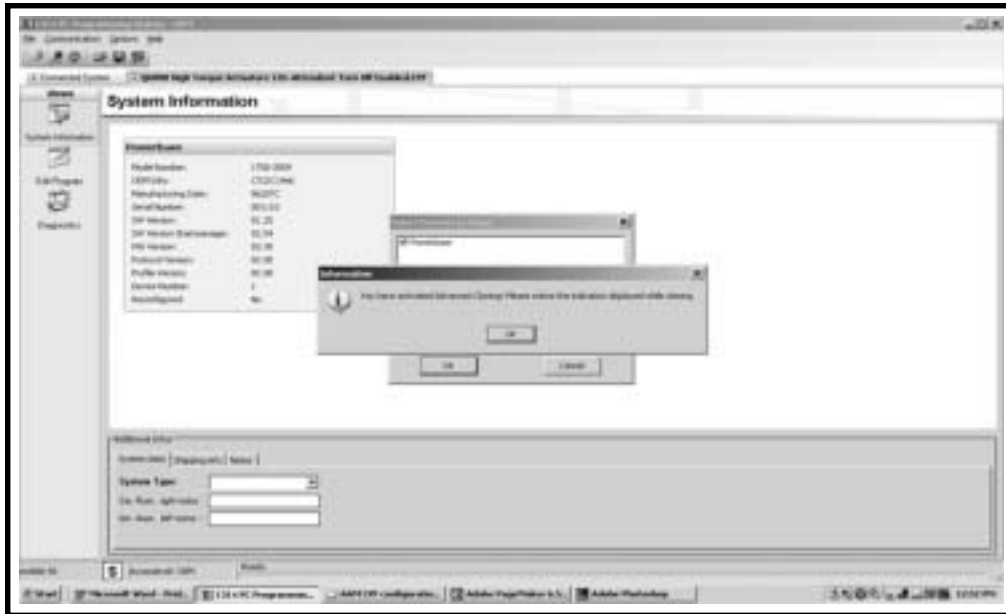

Figure 52. Advanced Cloning Pop-up Window
22. Make sure that all boxes are checked in the Select Devices to Clone window, including the Advanced Cloning box. Checking the Advanced Cloning box will produce a pop-up window. See figure 52.